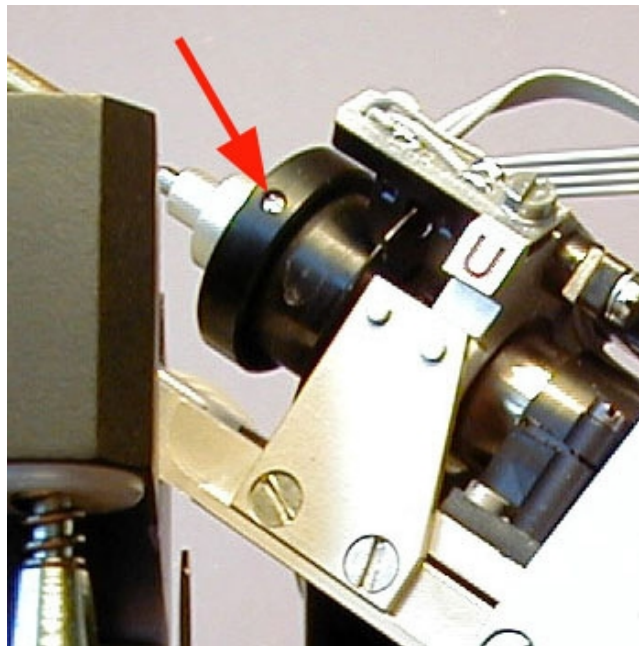

Figure 5: Fixing screw in the black screen
6. If not, locate the black screen with three slots and loosen a little bit a screw marked by red arrow in Figure 5.